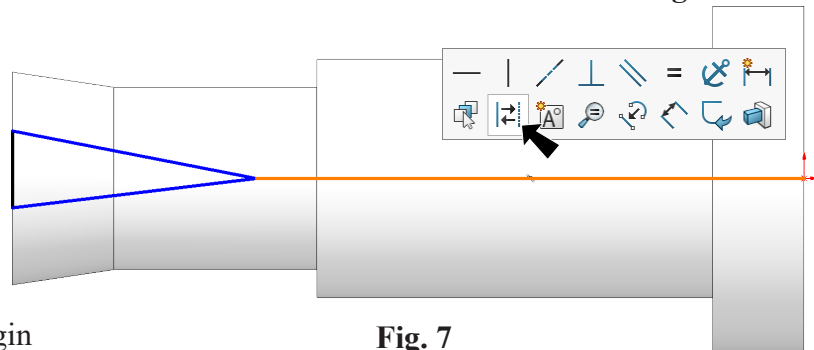

**Fig. 6**
Step 1. Click **Right Plane**  in the Feature Manager and click **Sketch**  on the context toolbar, **Fig. 6**.
Step 3. Click **Line**  (L) on the Sketch toolbar.